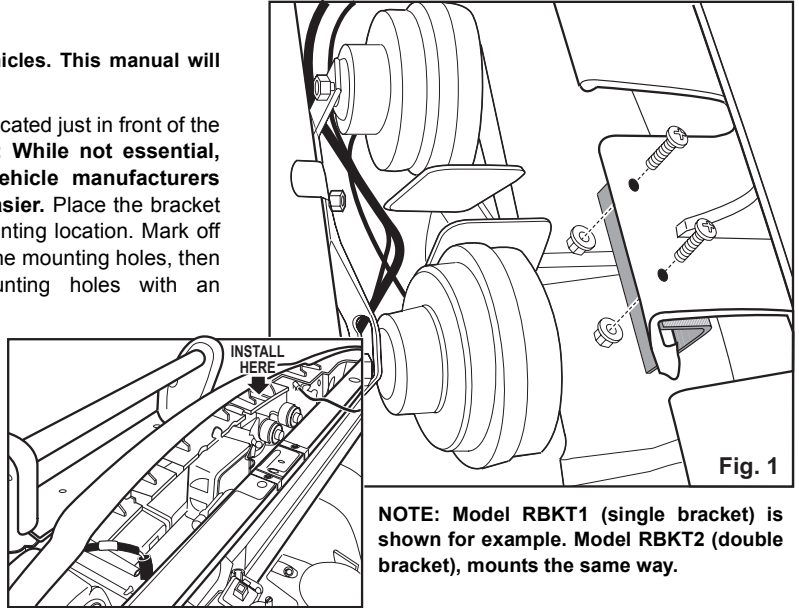

Fig. 1
1. Open the hood and find the mounting area located just in front of the vehicles horns as shown in Fig. 1. **NOTE: While not essential, removing the vehicle grill (following vehicle manufacturers instructions) will make the installation easier.** Place the bracket onto the mounting surface in the exact mounting location. Mark off (onto the mounting surface) the location of the mounting holes, then remove the bracket and drill the mounting holes with an appropriately sized drill for the hardware.